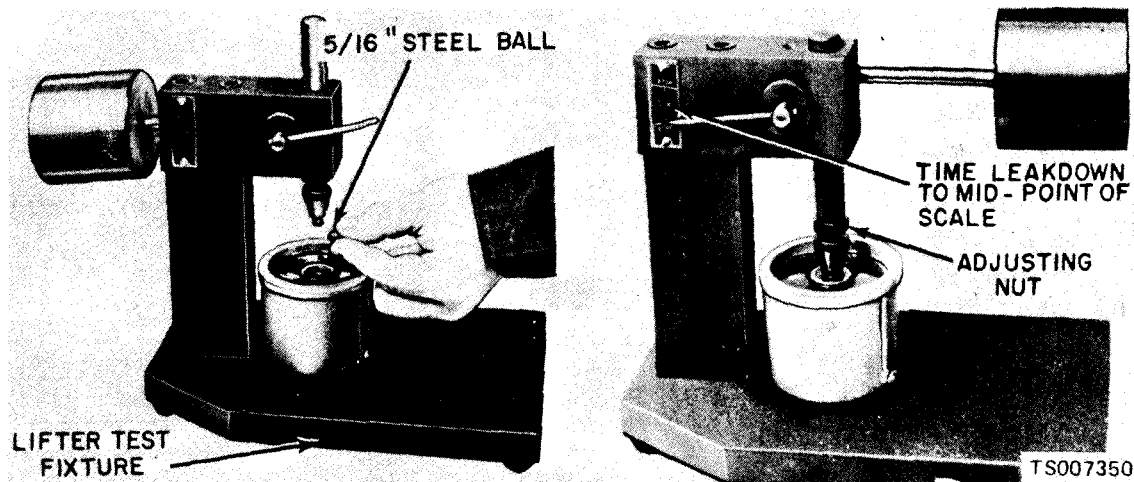

Figure 6-21. Testing Hydraulic Lifter.
- (1) Inspect the parts and discard the entire lifter assembly if any part shows pitting, scoring, galling or evidence of non-rotation. Replace the entire assembly if the plunger is not free in the body. The plunger should drop to the bottom of the body by its own weight when assembled dry.
- (2) Assemble the lifter assembly and check for freeness of operation by pressing down on the pushrod cup. The lifters can also be checked with a hydraulic tester to test the leak-down rate. See figure 6-21.